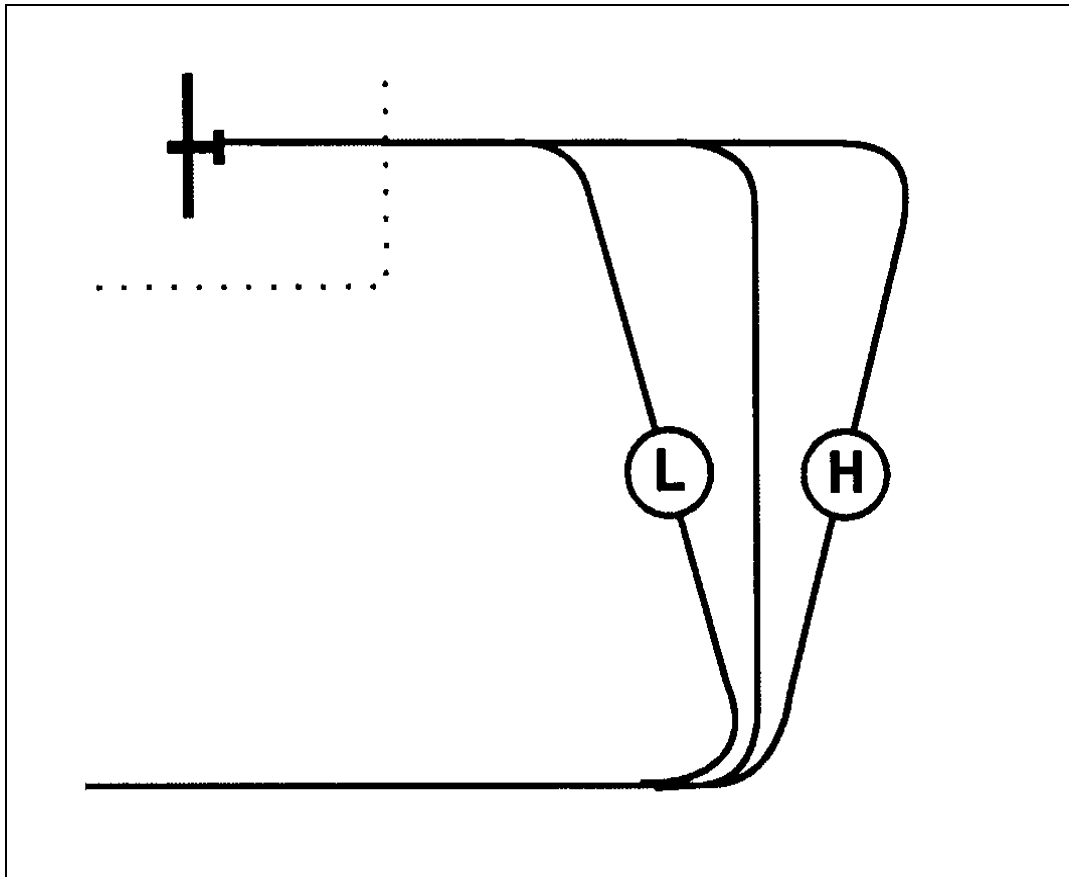
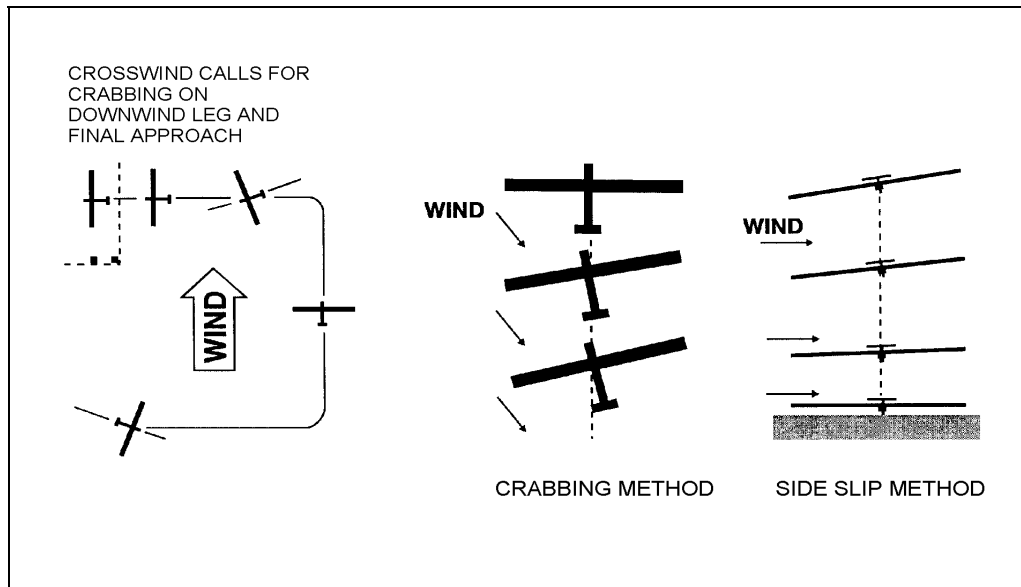

Figure 6-4-3 Base Leg Modifications
Figure 6-4-5 Crosswind Landing
11. Figure 6-4-3 gives you an idea as to corrections that can be made during the base leg. They are self-explanatory. However, remember that wind drift will have to be dealt with at all times, so do not forget crabbing action, if required (see Figure 6-4-5).